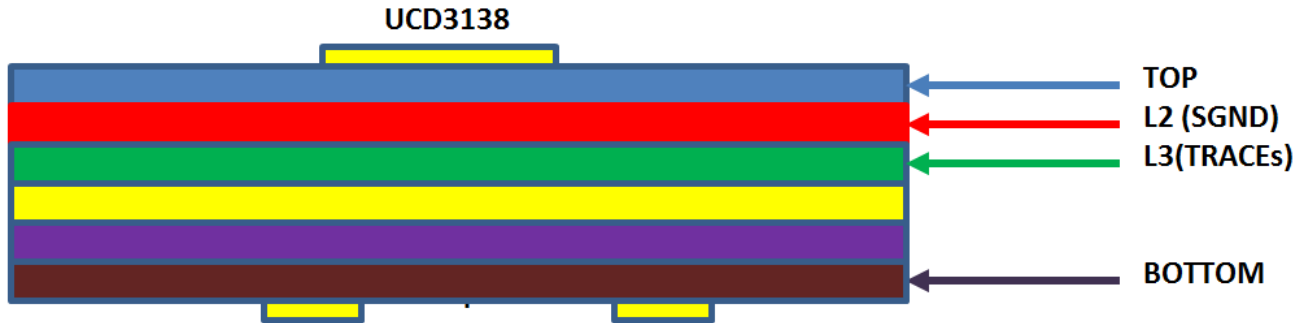

图 12-7. Single Ground Plane for a Power Module Design
- In a power module or a tiny PCB design, a single solid plane without the grounding separation is shown in 图 12-7 and has a single point connection with power RTN or SGND near the connector. Ensure there is no current flow from power train into the signal ground plane.